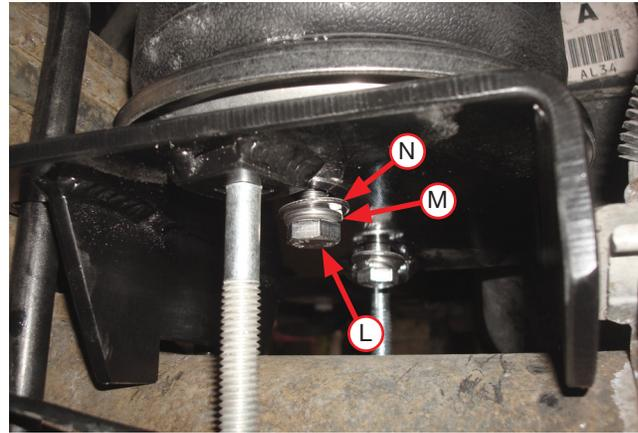

Fig. 22
5. Insert a 3/8" hex cap screw (L) through a split lock washer (M) and flat washer (N) then attach the air spring to the lower bracket by inserting the assembly up through the slot in the lower bracket (Fig. 22). Push the air spring so that the hardware is to the back of the slot and tighten the hardware securely.